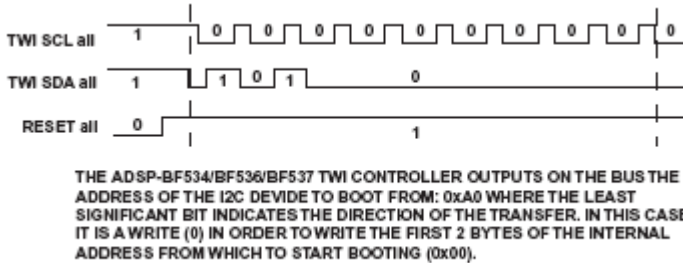

Figure 2-21. TWI Master Booting
In Figure 2-21, The TWI controller outputs on the bus the address of the I²C device to boot from: 0xA0 where the least significant bit indicates the direction of the transfer. In this case, it is a write (0) in order to write the first 2 bytes of the internal address from which to start booting (0x00).